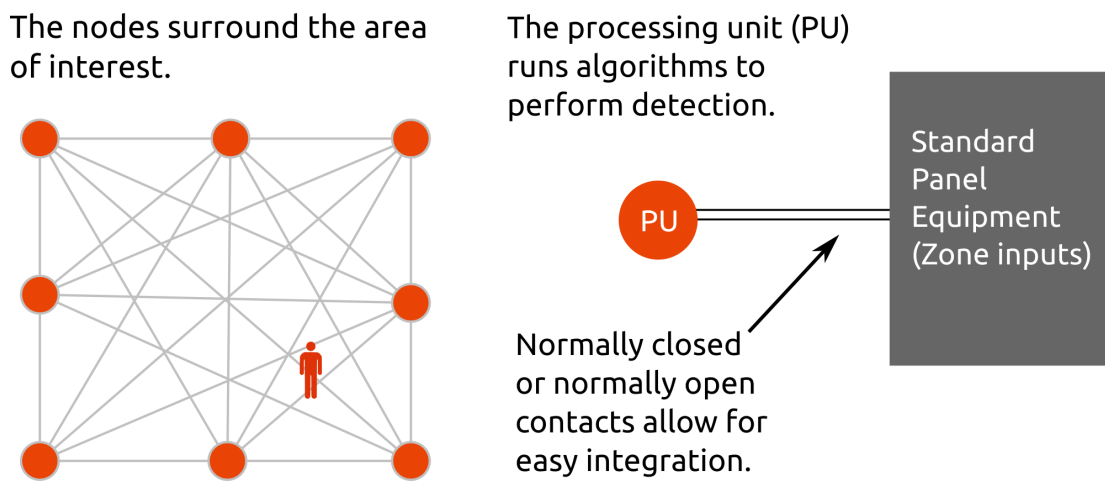

Figure 1: Xandem TMD architecture.
The **processing unit (PU)** is the second kind of device which acts as a gateway for the motion detection signal. It has two normally-closed contacts for motion and trouble triggering that can be used to easily integrate the TMD kit with other systems, as shown in Figure 1. When the TMD system detects motion within the area surrounded by nodes, or when a trouble with the system is detected, a normally-closed relay on the processing unit is opened. This is a standard way in which most security and automation panel equipment is triggered.